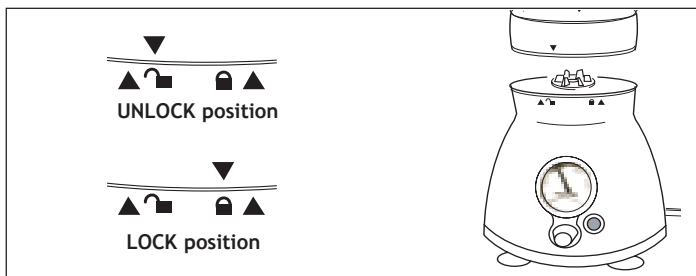

Figure 2
3. Place the Blending Jar with Blade Assembly into the Motor Housing by lining up the arrow on the Blending Jar with the UNLOCK on the Motor Housing. Turn the Blending Jar to the right so that the arrow on the Blending Jar is lined up with the arrow in the LOCK position on the Motor Housing. (See Figure 2.)